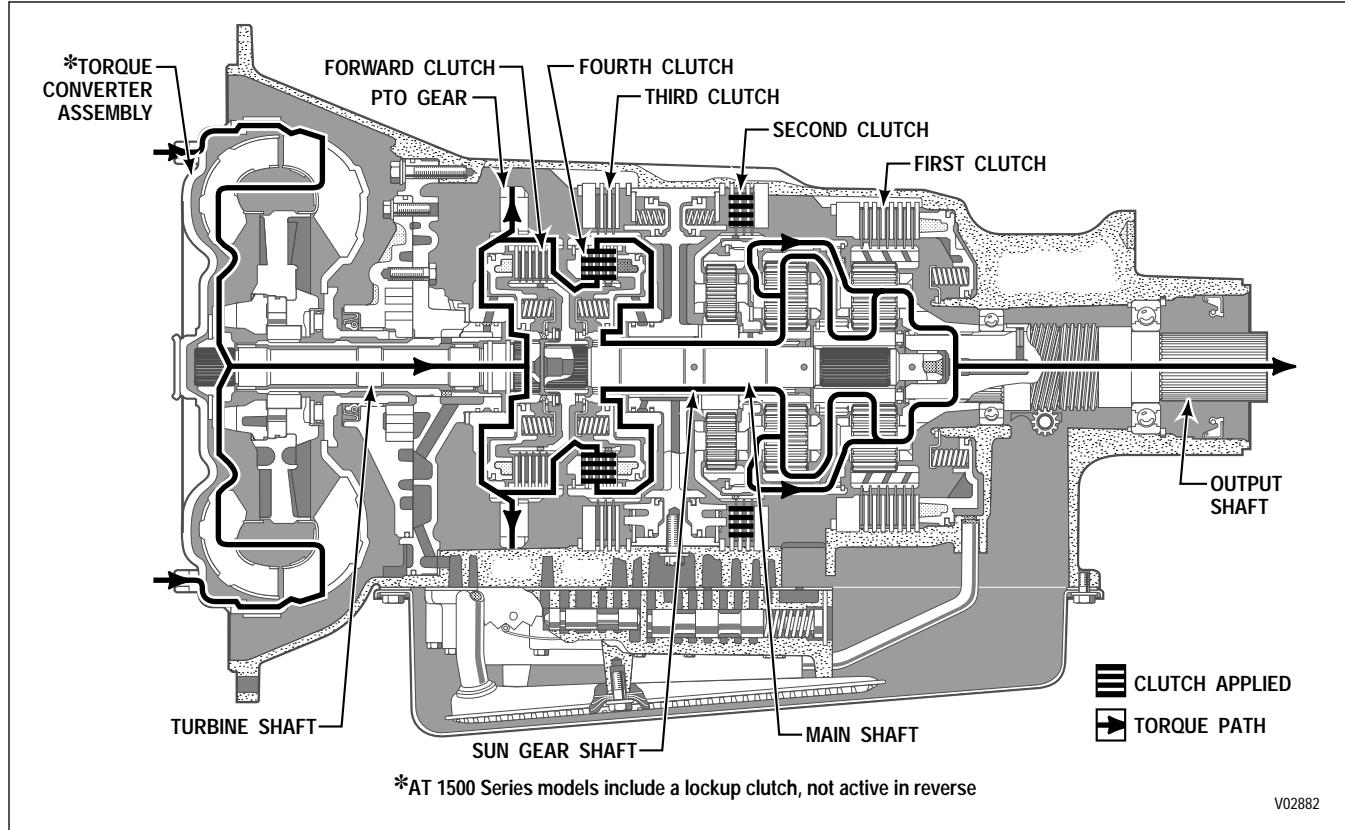

Figure 2-6. Reverse Power Flow
**j. Reverse Operation** (Figure 2-6). Reverse is the only range in which the forward clutch is not engaged. In this range, the fourth clutch is applied and this rotates the sun gear shaft assembly (with the front and center sun gears splined to it) at turbine speed. The first clutch is applied also, and anchors the rear ring gear against rotation. The center sun gear rotates the center carrier pinions, which, in turn, rotate the center ring gear in an opposite direction. The center carrier is